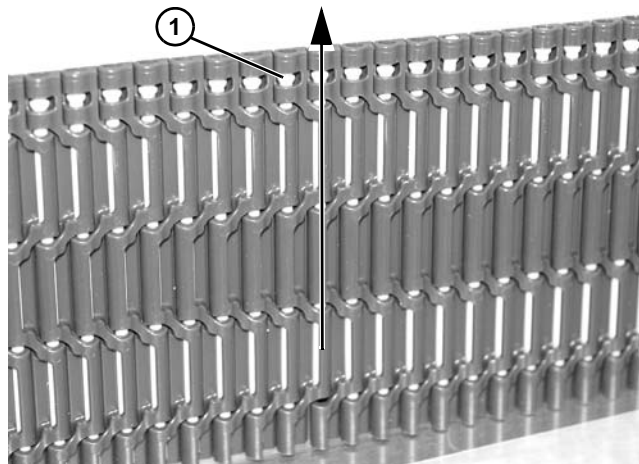

Figure 64
Note that head of pin (**Figure 64, item 1**) should be removed in direction shown.